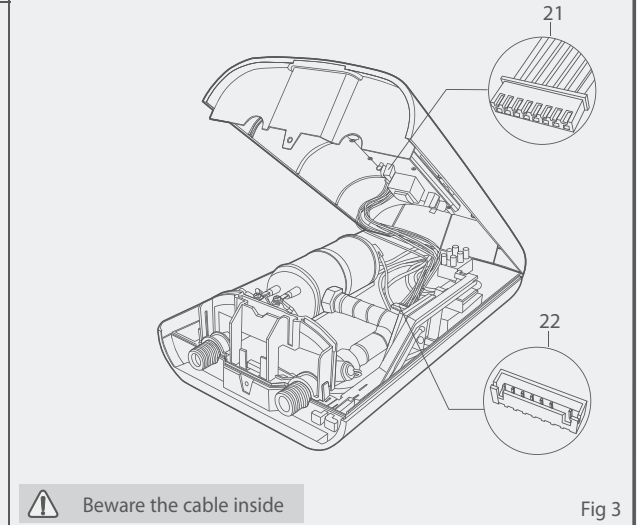

Fig 4
5. Determine the position of the drillholes by Installation template and drill the holes. Insert the wall plugs and screw in the screws (ensure screw insertion depth is correct, 3). (Fig 4)